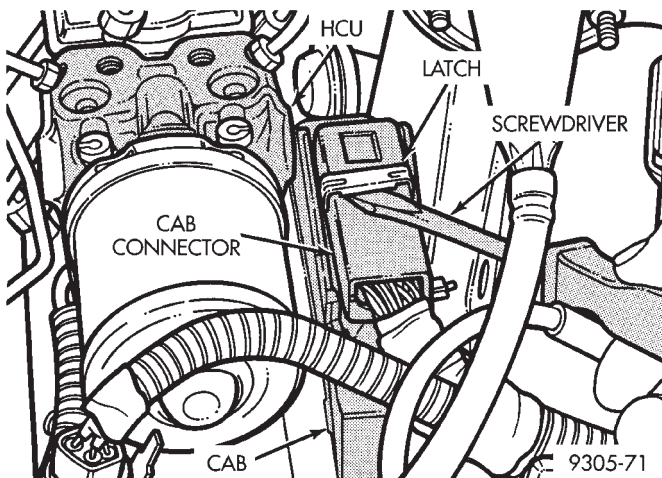

Fig. 3 (CAB) Connector Locking Latch.
(4) **VERIFY THAT THE VEHICLE IGNITION IS OFF BEFORE REMOVING THE 37 WAY CONNECTOR.** Disconnect the 37 way connector from the (CAB) using the following procedure. Using a screwdriver, lift connector latch away from connector (Fig. 3) and rotate connector latch all the way back against (CAB). This will lift the (CAB) connector away from (CAB) terminals.